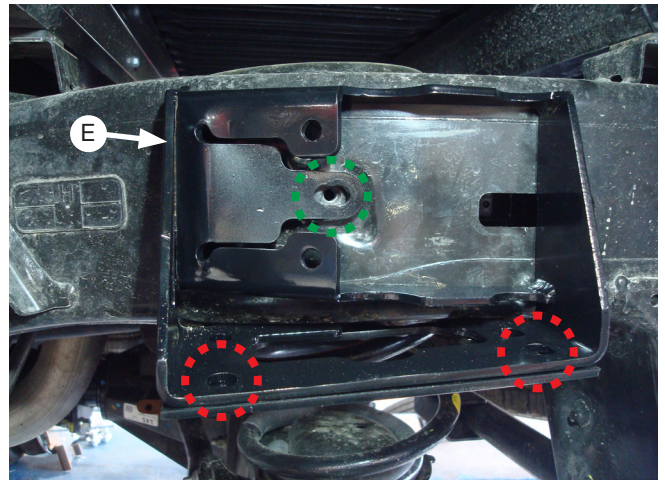

Fig. 9
- The M8 screws from the previous step are almost ready to be tightened down. First, the upper brace is needed to make sure the frame plate is aligned. Place the upper brace (E or F depending on the side) on top of the frame plate (Fig. 9). Move them around slightly until you get the frame hole aligned (circled in green) and the brace holes aligned with the upper frame holes (C) (circled in red). Once they are aligned, tighten the two M8 screws (P) down to 18 lb.-ft. (24Nm) with a 5mm hex tool. Remove the upper brace (E or F).